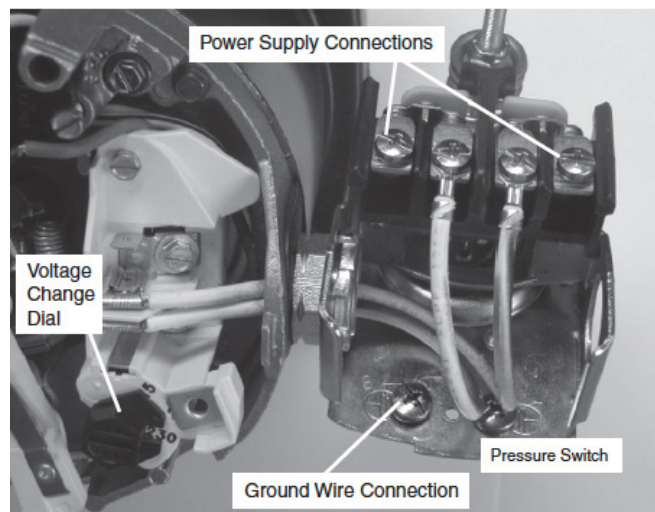

Figure 9: Voltage Adjustment Dial
1. Connect the ground wire first (Figure 9). The ground wire must be a solid copper wire at least as large as the power supply wires.
4. Connect the power supply wires to the pressure switch as shown in Figure 9.